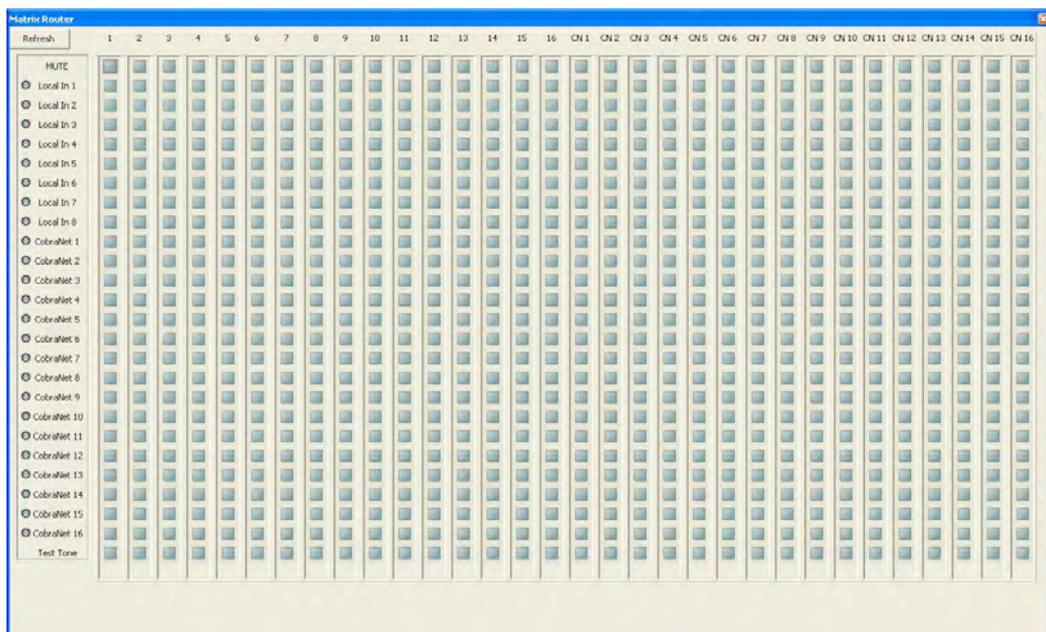

Figure 4-6: Router
- Router: The router (see Figure 4-6 below) accepts 25 inputs and 32 outputs. The first 8 inputs are ION local analog. Note: ION8.8 uses all 8, the ION4.4 only uses the first 4. The next 16 inputs are CobraNet™ inputs 01-16, as defined in the protocol sub channel mapping. The final input is the Test Tone (Sine wave).